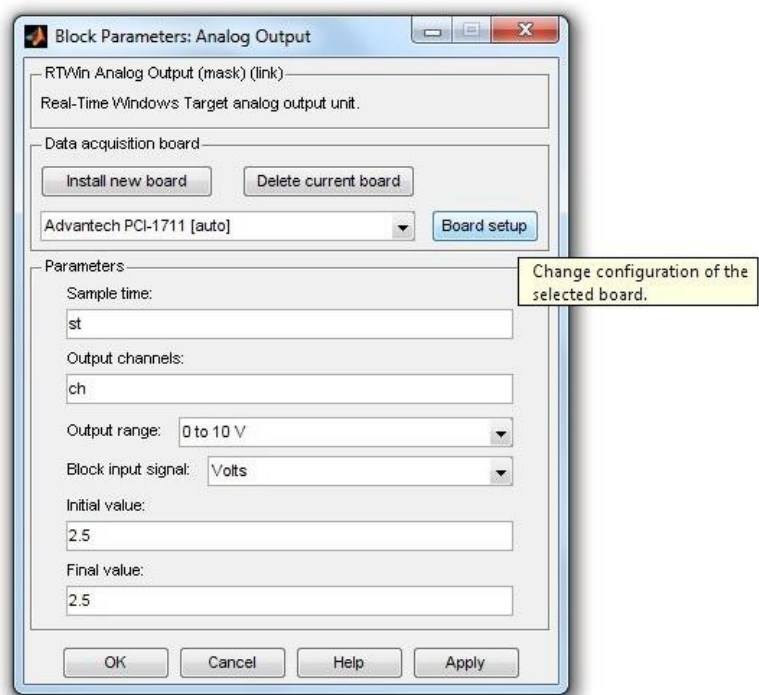

Figure 28 Selecting the I/O Card
- If the PCI-1711U card experiment is run for the first time we can double click on the Digital Output block and register the PCI-1711U card in Matlab environment (Figure 28).